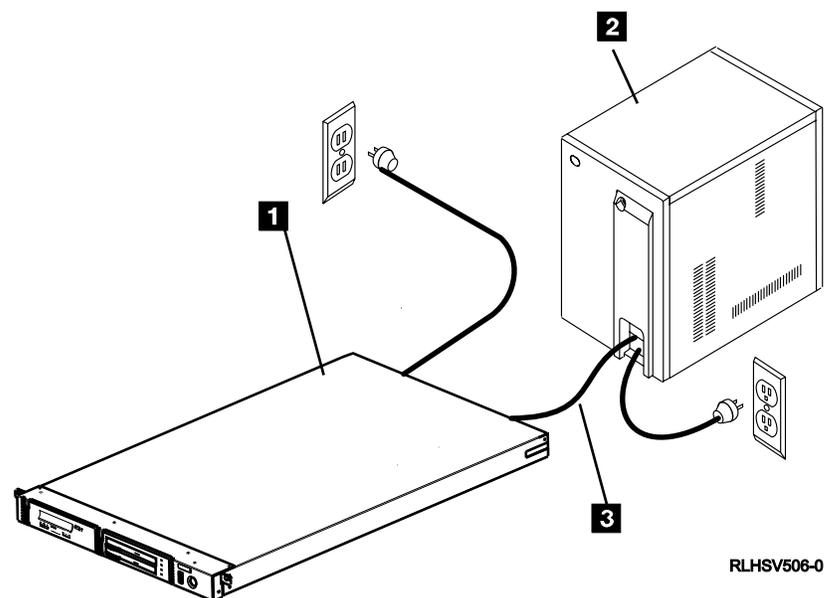

Figure 20. Performing the Safety Inspection
Figure 20 shows the components to review during the service inspection.
3. Turn off the power to the 7214 Storage Enclosure( **1** in Figure 20 on page 47).